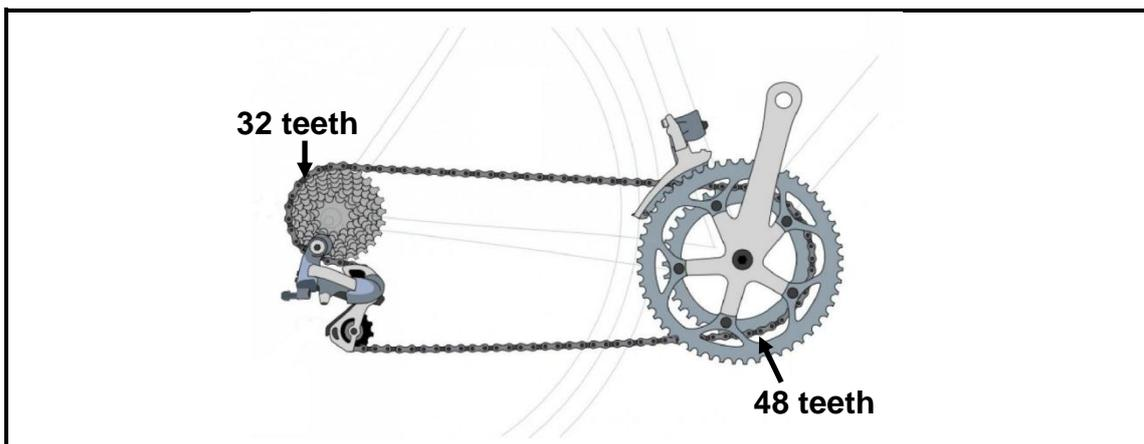

FIGURE 11.6
- 11.6 The chain drive system of a bicycle is shown in FIGURE 11.6 below. Calculate the gear ratio of the system.